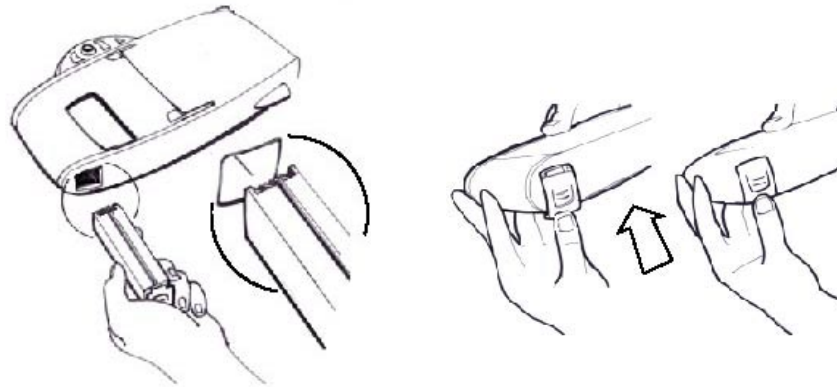

Figure 4.1 Battery Installation
- 1 Insert the battery (ridge side up) into the battery compartment. See Figure 4.1.